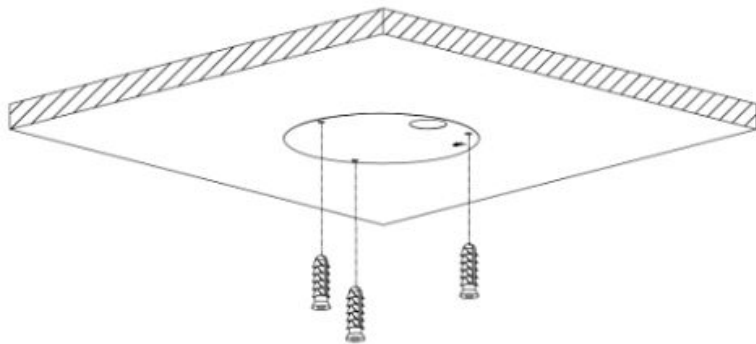

Figure 2-2
Step 2 install the included plastic anchor screws. See Figure 2-2.